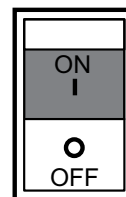

Figure 39. Circuit Breaker ON (GFCI Test)
2. Place the main circuit breaker (Figure 39) in the **ON** position.